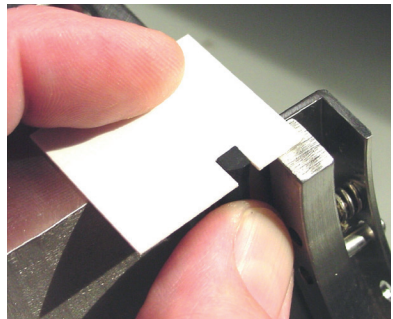

Figure 21
- 6.5 Push the end into the adhesive and check the gasket extension with the "Proud" gauge. Hold it in place for 10 seconds. See Figure 21.